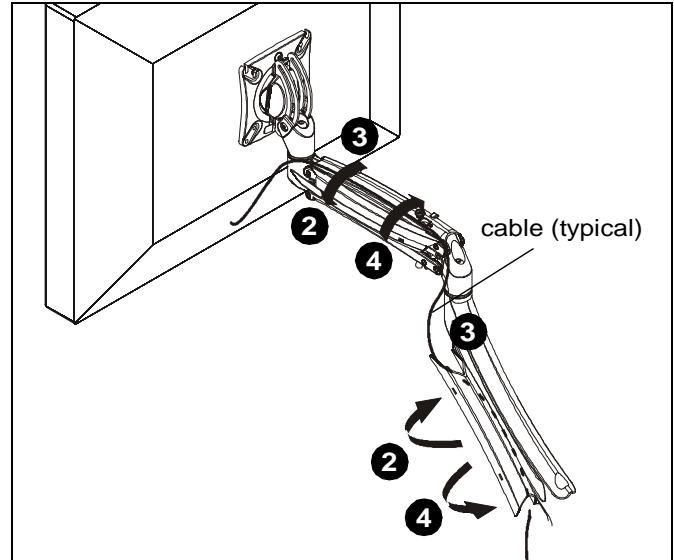

Figure 26
3. Route cables through cable management channels. (See Figure 26)
4. Close cable management covers on monitor arm. (See Figure 26)